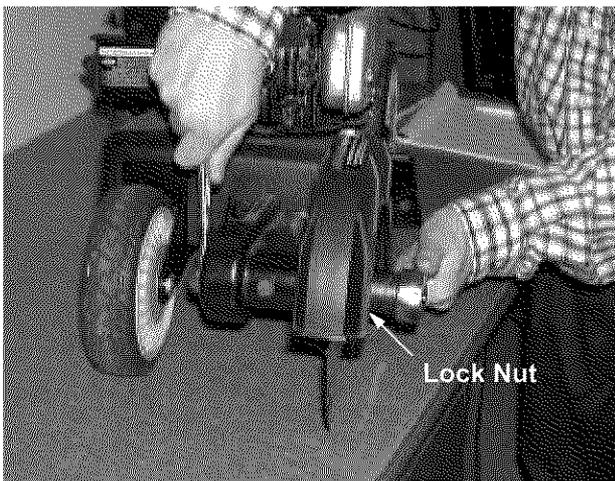

Figure 18
1. Use a 15/16" box or socket wrench on the bolt head under the belt guard and a 15/16" wrench to remove the lock nut holding the blade. See Figure 18.